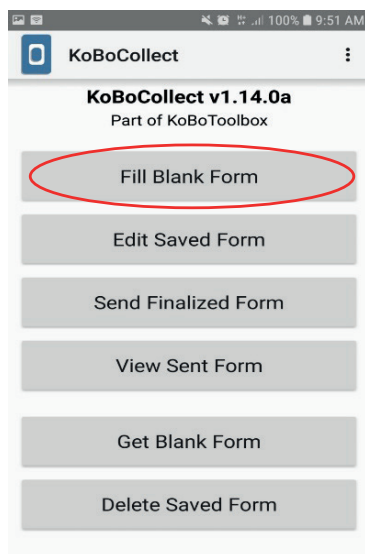

Figure 38: KoBoCollect Fill Blank Form
1. Click on “Fill Blank Form”. (Figure 38).